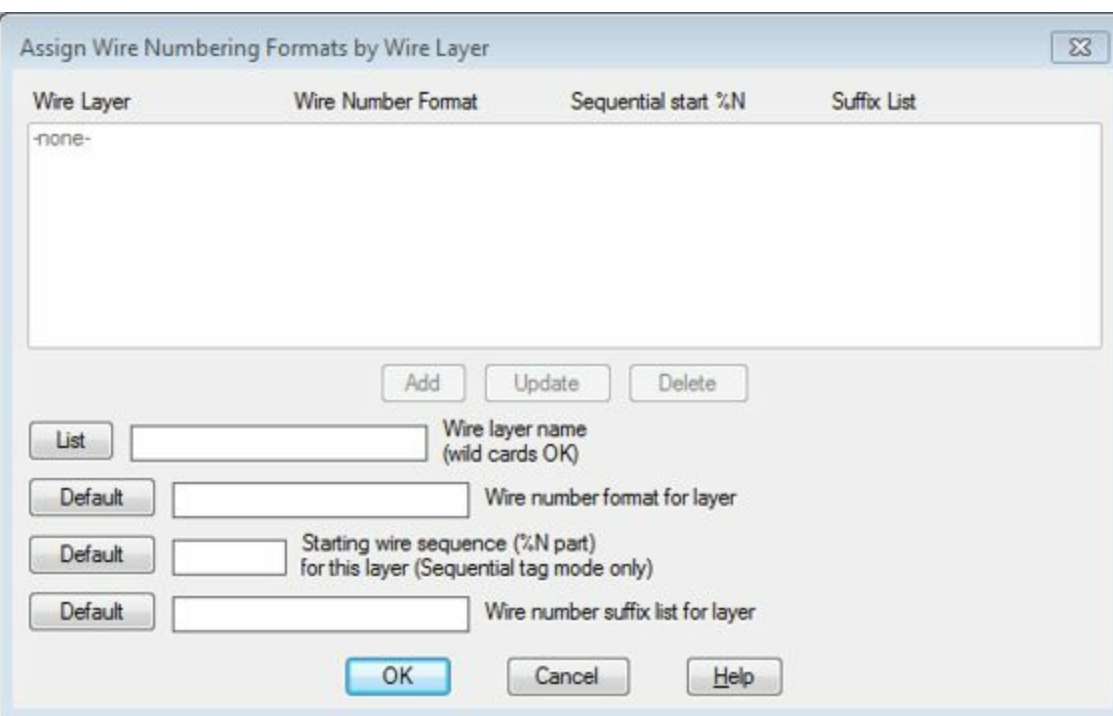

Figure-18. Assign Wire Numbering Fornats by Wire Layer dialog box
- Select the **Based on Wire Layer** check box to make the wire numbering based on the wire layers. On selecting this check box, the **Layer Setup** button becomes active. Click on this button to display the **Layer Setup** dialog box; refer to Figure-18. In this dialog box, you can add, remove, or update the wire layer for wire numbering.